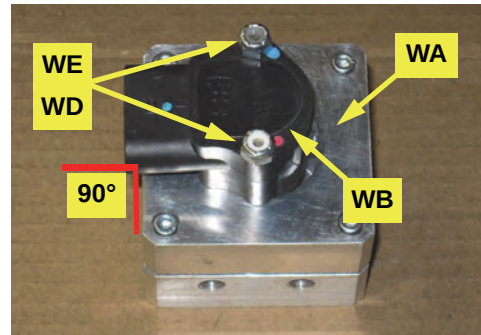

Figure 1a: Prepared WAS housing/connector
- a. Using the provided hardware **WE** (nuts) and **WD** (bolts - not visible), attach the WAS wire connector **WB** to the WAS housing **WA**. Install the bolts up through the bottom of the housing. The WAS wire connector **WB** can be mounted 90° to any of the WAS housing **WA** sides (Figure 1a).
Facing the one inch tabs of bracket **EJ** toward the right side of the machine, position the bracket with its front left corner $2\frac{3}{4}$ " from the front window and $1\frac{1}{2}$ " from the outer edge of the footrest (Figure 1a). (This should set the rear edge of the bracket to $14\frac{1}{2}$ " from the front edge of the plastic seat mounting box - Figure 1a and inset).
Using hardware **EL**, fasten the bracket to the cab floor (Figure 1a). Use a small level (not shown) to check the level of the bracket. Adjust accordingly.
Figure 1a with inset: ECU mounting bracket location/installed